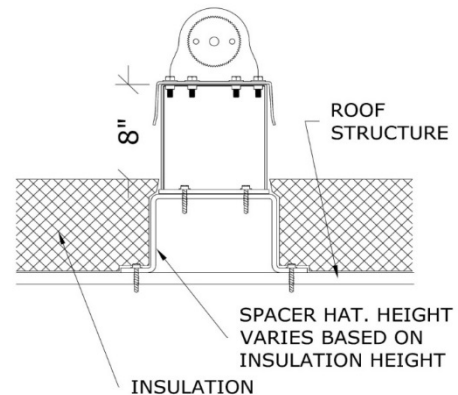

Figure 8
- Steel Spacer Hat: Similar to using a wood block as outlined above, a steel spacer may be used. An effective method is to use a steel plate bent into the shape of a hat section as shown in Figure 8. The spacer hat must be appropriately sized and attached to the structure.